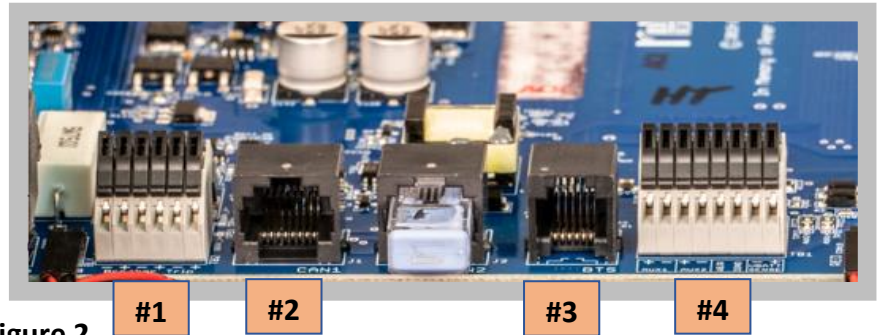

Figure 2
BARCELONA CONNECTIONS (Figures 2, 3, & 4)
1. Connect the phone jack of the BTS into the BTS receptacle on the Barcelona control board, as marked by **#3** in **Figure 2**.
1. Connect the WBJr’s purple wire to the terminal block, **#4**, as shown in **Figure 2**.